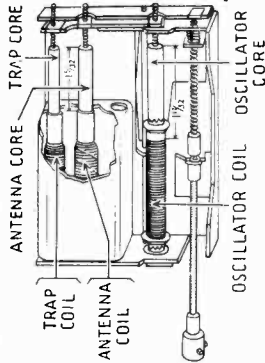

FIGURE 1.—Inductive Tuning Unit for Models C1808, C1908
- b. Adjust antenna and oscillator cores according to dimensions given in Figures 1, 2 and 3.
- b. Adjust the antenna core according to dimensions given in Figures 1, 2 and 3.